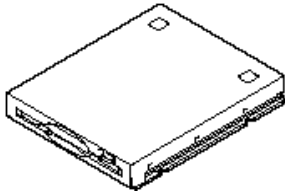

Figure 1-5 Floppy Disk Drive
- Modular 3.5" floppy disk drive (located in the Accessories box). (Figure 1-5.)